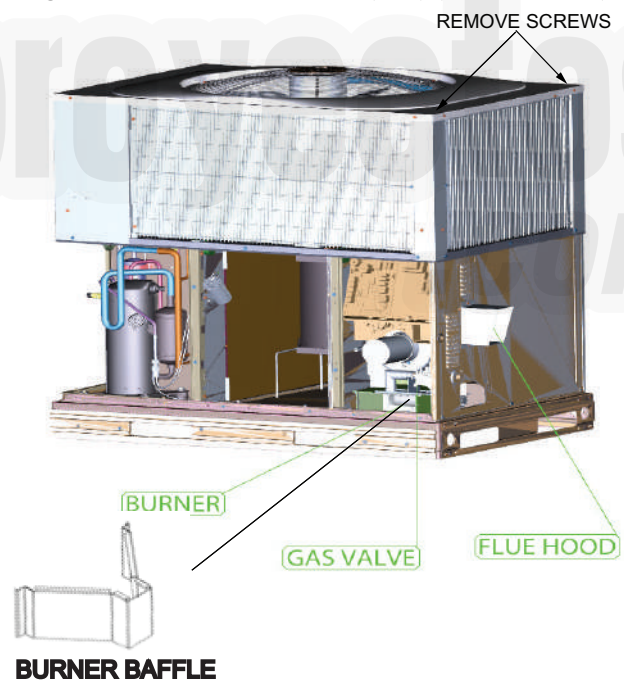

Fig. 20 – Blower Housing, Flue Collector Box and Burner Heat Exchanger Assembly (Ultra Low NOx) ^{A200278}
3. Slide the assembly out of the unit. (See Fig. 20). Clean the blower wheel. If additional cleaning is required, continue with Steps 4 and 5.
2. Remove the 11 screws holding the flue collector box cover (See Fig. 20) to the heat exchanger assembly. Inspect the heat exchangers.
Unit is equipped with a direct spark ignition 100 percent lockout system. Ignition module (IGC) is located in the control box (See Fig. 20). Module contains a self-diagnostic LED. During servicing, refer to label diagram or Table 6 in these instructions for LED interpretation.
Ultra Low NOx Burner Baffle Inspection/Cleaning (See Fig. 20.)